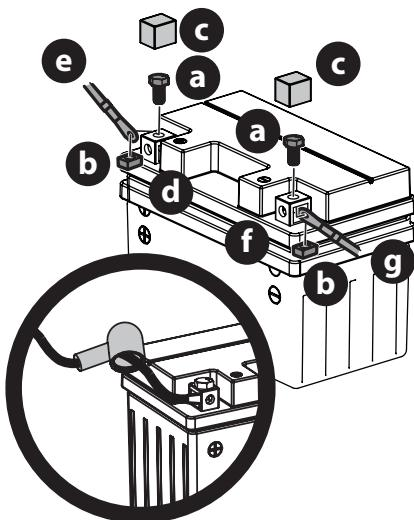

Figure 14
1. Remove the hex screws (a) and square nuts (b) located either on the end of the wiring harness or in the bag with this manual. Retain the hardware for later instructions (Figure 14 on page 12).
2. Remove the plastic cover (c), if present, from the positive battery terminal (d) and attach the red cable (e) to the positive battery terminal (d) with one of the hex screws (a) and square nuts (b), from Step 1. Use a Philips screw driver (Figure 14 on page 12).
3. Position the red rubber boot over the positive battery terminal to help protect it from corrosion (Figure 14 on page 12, inset).
4. Remove the plastic cover (c), if present, from the negative battery terminal (f) and attach the black cable (g) to the negative battery terminal (f) with the remaining hex screw (a) and square nut (b) (Figure 14 on page 12).